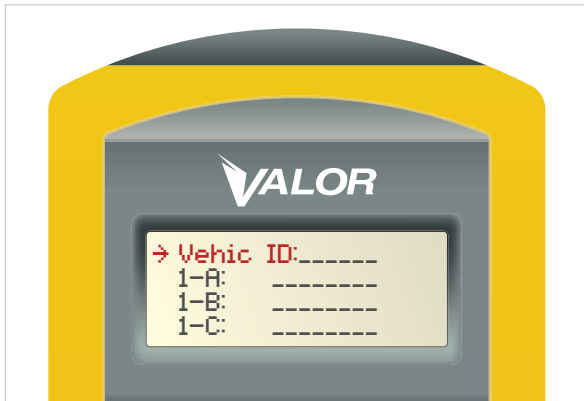

Figure 8
2. With the cursor arrow → positioned next to “Vehicle ID:” (Figure 8) turn the power to the Valor CANbus transceiver OFF and back ON. (I.e. vehicle ignition or power interrupt button on Valor harness (Figure 8A).